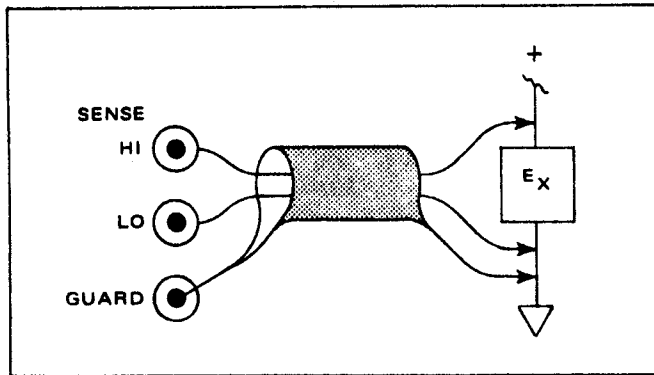

Figure 3.1 - Basic Voltage Measurement Connections
3.5.1 For basic voltage measurements, an ac or dc voltage measurement connection recommended to minimize the effects of noise requires a two-conductor shielded cable connected as shown in figure 3.1.